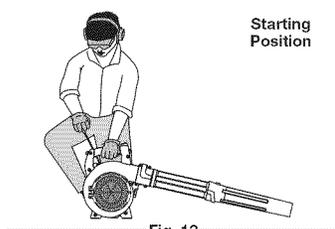

Fig. 13
**WARNING:** Avoid accidental starting. Make sure to be in the starting position when pulling the starter rope (Fig. 13). To avoid serious injury, the operator and unit must be in a stable position while starting.
4. **Do not squeeze the trigger.** Crouch in the starting position (Fig. 13). Pull the starter rope 5 times in a controlled motion.
4. Crouch in the starting position (Fig. 13). Insert the Speed Start™ accessory into the Speed Start™ port on the side of the unit (Fig. 23). Refer to the *Operation* section of the Speed Start™ accessory operator's manual.